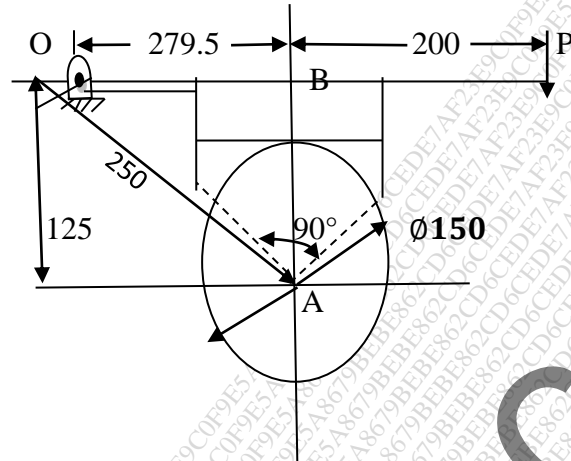

figure 01
- Q.9 Figure 01 shows a long shoe brake. Find the power absorbed and the force P, if the maximum pressure intensity is 0.8 mpa. Assume $\mu = 0.25$. The width of the shoe is 50mm derive the expression 13